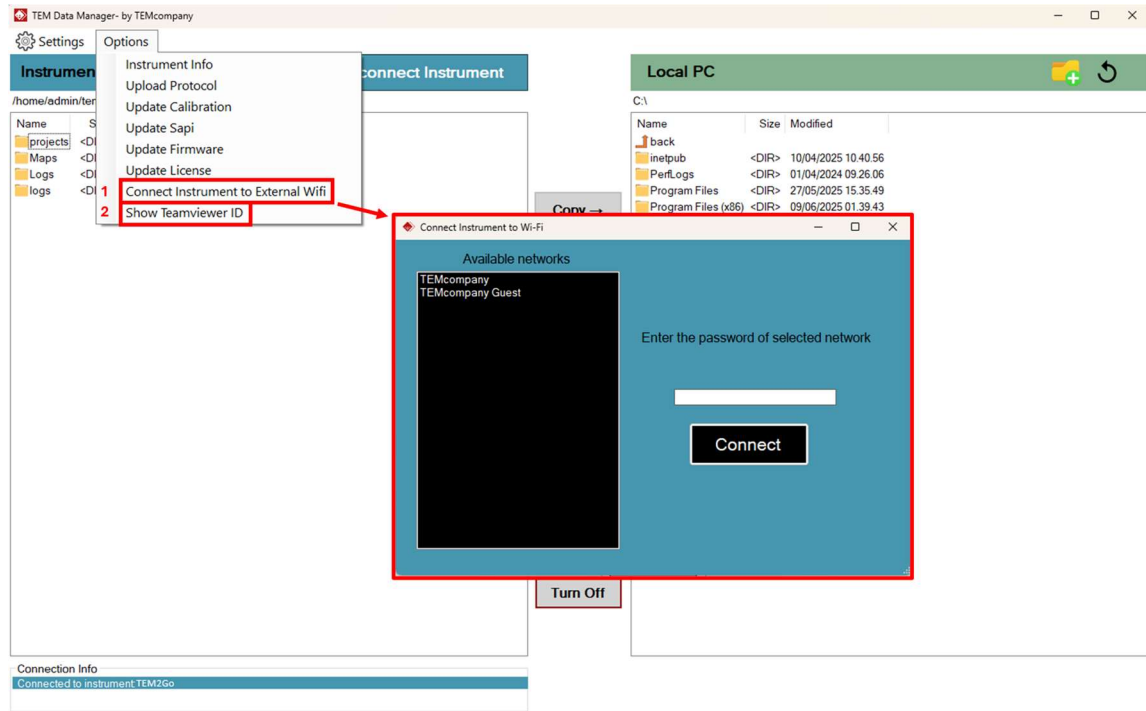

Figure 42: How to connect the unit to external Wi-Fi by using the TEM Data Manager
2. By using the TEM Data Manager program (Figure 42)